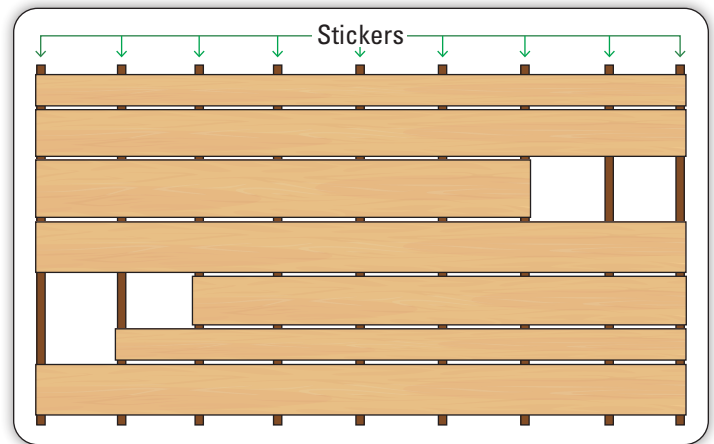

Figure 1: Top view of lumber stacking showing proper sticker placement and board placement for box piling.
- **Box piling** includes placing the longest pieces of lumber on the outside edges of each course. The shorter pieces are staggered from one end to the other within the course. Pieces of lumber within each course should be placed tightly edge-to-edge (Figure 1).